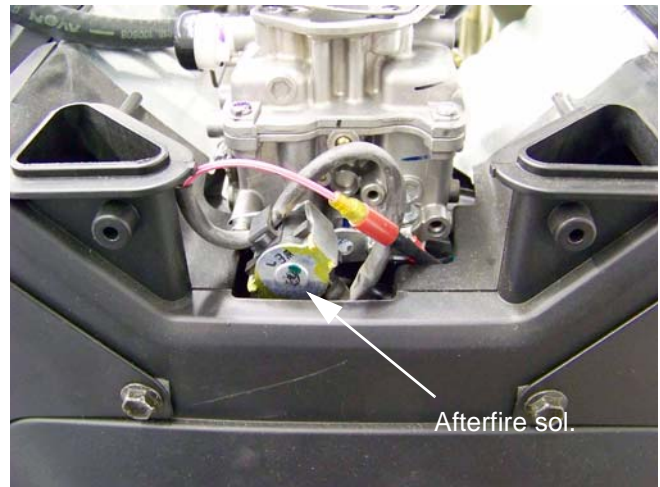

Figure 7.18
2. There is an **afterfire solenoid** on the carburetor. When it is energized, fuel flows normally through the carburetor. When it is not energized, it closes off the fuel flow through the main jet of the carburetor. The purpose of the solenoid is to prevent unburned fuel from being pumped through the engine after the ignition is turned off. This unburned fuel accumulates in the muffler and may ignite with an alarming noise. See Figure 7.18.